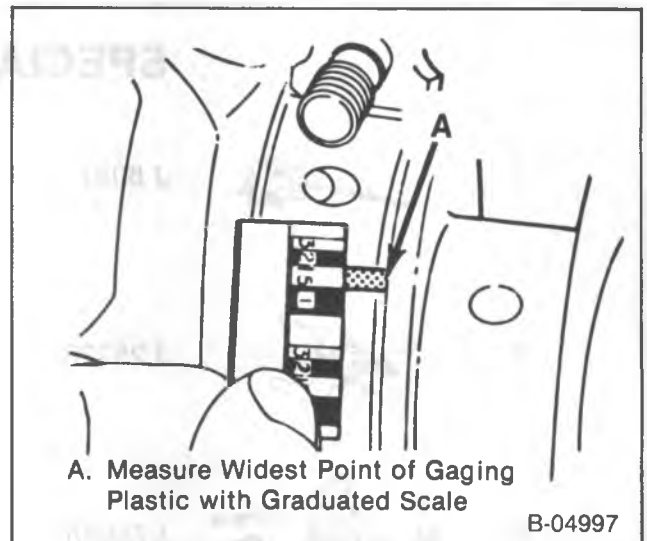

Figure 40—Measuring the Gaging Plastic
**Measure (Figure 40)**
- Gaging plastic at its widest point, using the scale at the gaging plastic envelope (figure 40).